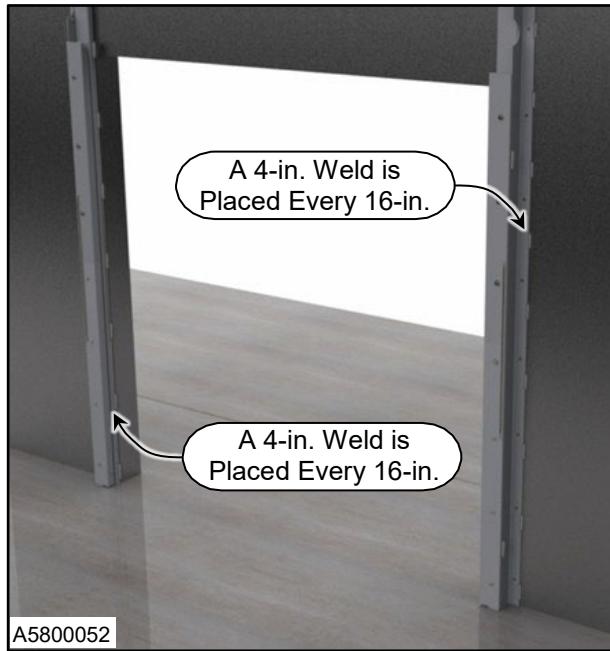

Figure 19
2. Inspect broken or cracked welds on side column assemblies. Rework the weld as needed. (See Figure 19)